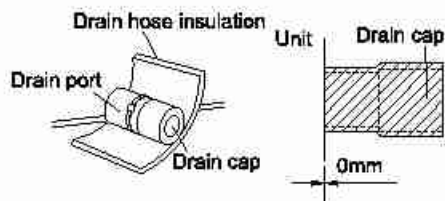

Fig.21
10. The unused drain port also should be insulated properly (Fig.21)